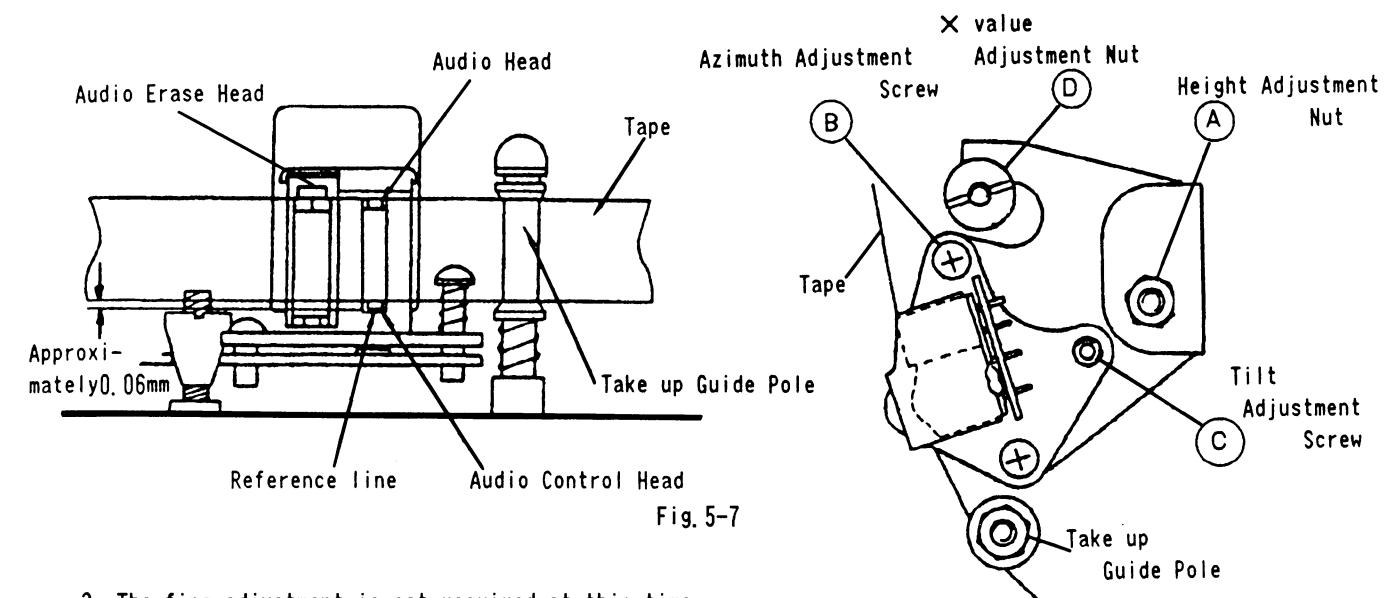

Fig. 5-7
2. Adjust the height of the edge of the audio track on the audio control head by using the height adjustment nut (A) and the tilt adjustment screw (C) so that the tape transport is smooth at the take-up guide pole. Align the audio control head height. (Refer to Fig. 5-7.)
2. Confirm that the tape running between the take-up guide roller and the audio control erase head has no slack. If the tape has slack, take it up by turning the tilt adjustment screw (C). (Refer to Fig. 5-7.) Then readjust GUIDE ROLLER HEIGHT in section 5-2 and the X value in section 5-4.